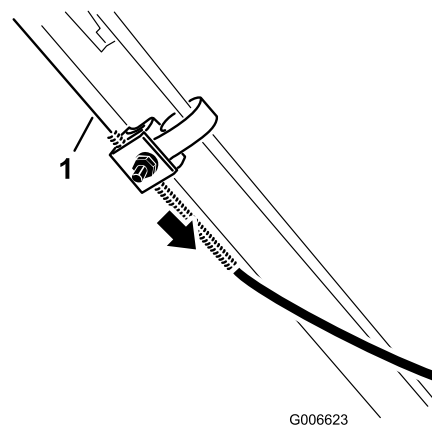

Figure 30
6. Pull the cable jacket down (toward the lawn mower) to remove all the slack in the cable (Figure 30).